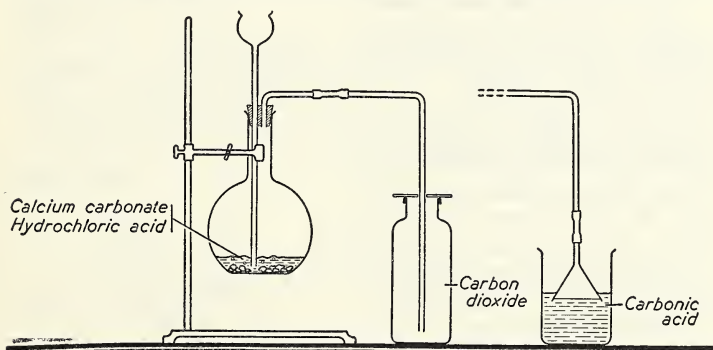

Fig. 56. The laboratory preparation and collection of carbon dioxide.
1. Place two teaspoonfuls of marble chips in a 250 millilitre flask, and fit the flask with a thistle-tube and a delivery tube, as illustrated in Figure 56. Add dilute hydrochloric acid through the thistle-tube until the marble chips are covered and the lower end of the thistle-tube is below the level of the acid.
3. Attach a funnel to the delivery tube, and allow the gas to come into contact with water in a beaker, as illustrated in Figure 56.
6. Drop pieces of red and blue litmus paper into the solution of carbon dioxide contained in the beaker (Fig. 56).